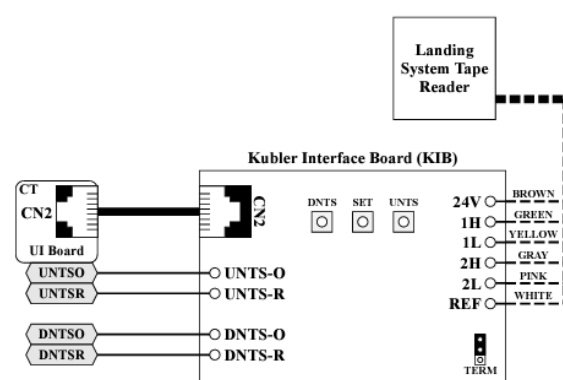

Figure 27: Sensor head connection to KIB Board.
20. Connect the 6 wires of the sensor for power and communication to the KIB board located inside the CT Box. See Figure 27